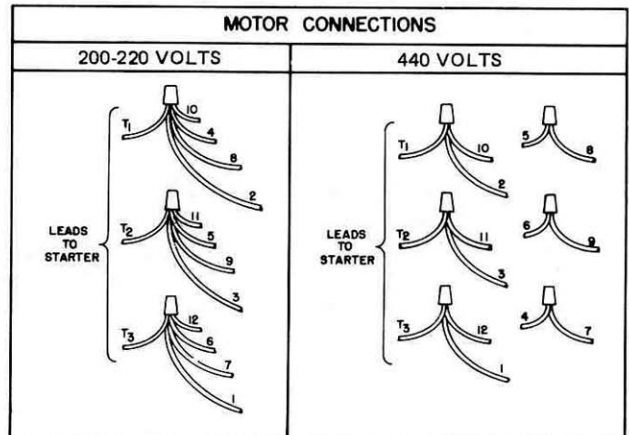

Fig. 36
10. Remove motor junction box cover to expose motor wires and reconnect motor wires for 440 Volt operation. Fig. 36 illustrates motor wire connections for 220 Volts and 440 Volts.